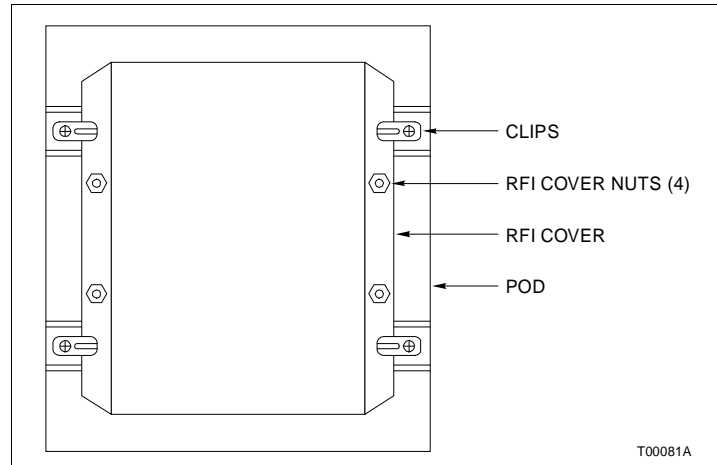

Figure PR71-2. ADP
6. Rotate the four clips that hold the ADP into the pod. It might be necessary to loosen the clip mounting screws (Fig. PR71-2).